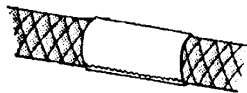

Fig. 1
1. Wrap cutting point with masking tape. (see fig. 1).